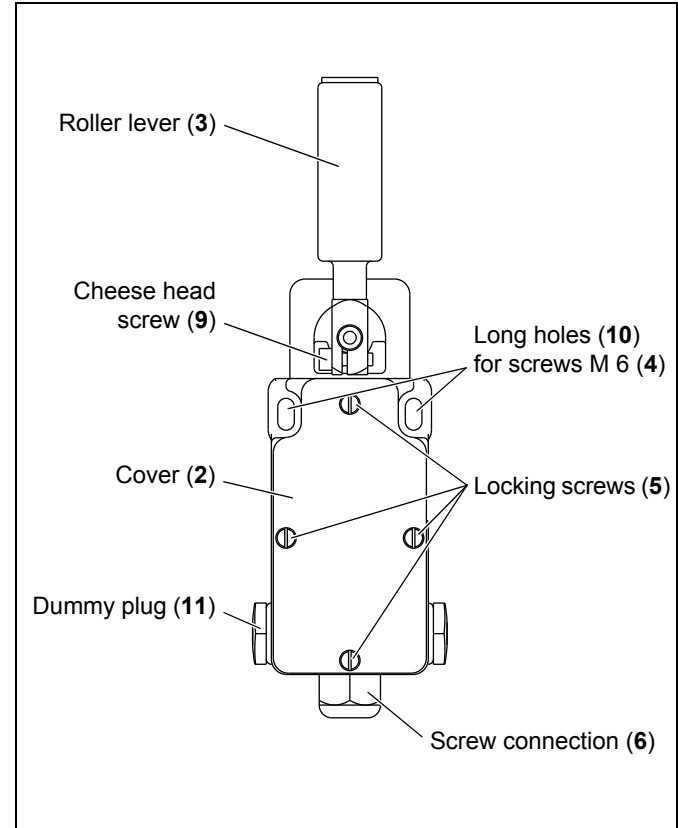

Fig. 5-4: Mounting the belt misalignment switch onto the conveyor
2. Turn the cable feed-through (6) into one of the threaded holes of the belt misalignment switch (s. Abb. 5-4).
3. Close the other two holes with the dummy plugs (11).
4. Open the cover (2) of the belt misalignment switch by loosening the four locking screws (5).